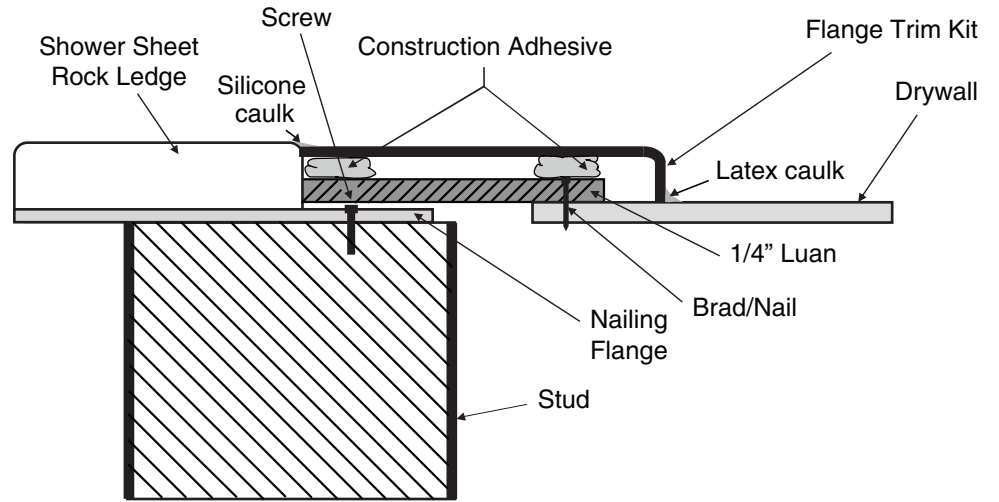

Figure 9
- 1 Recommended: If there is a gap between the shower's nailing flanges and the cut sheetrock (for shower installation), use Luan strips to span the gap (Figure 9).